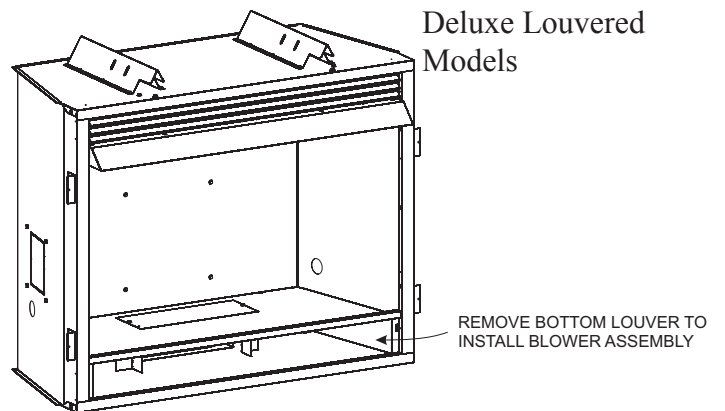

Figure 26
3. Determine which type of firebox you have prior to installation. See Figures 26 and 27.